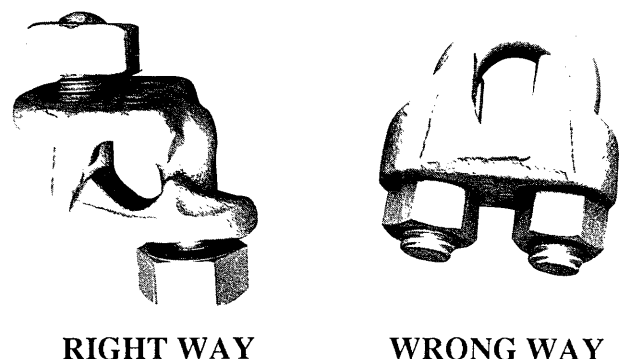

Figure 4.7
**DO NOT USE "U" type clamps** as illustrated in Figure 4.7. They cause crushing of wires and reduction in strength of the wire rope.